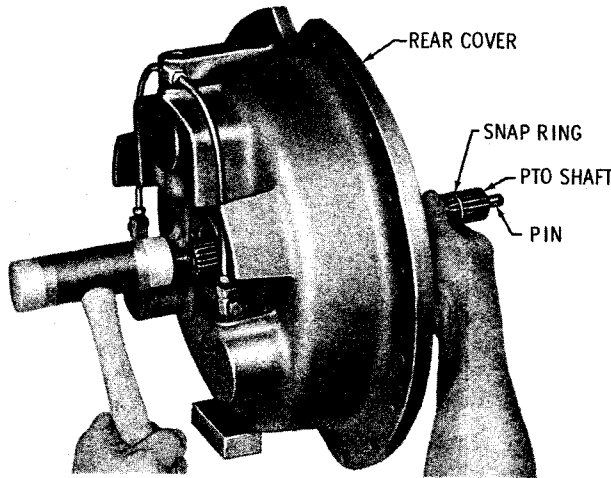

Fig. 6-18. Removing PTO shaft from TTB model rear cover
(2) Tap the PTO shaft forward, and remove it from the rear cover assembly (fig. 6-18). Remove the snapping from the shaft. Remove the pin only if replacement is necessary.